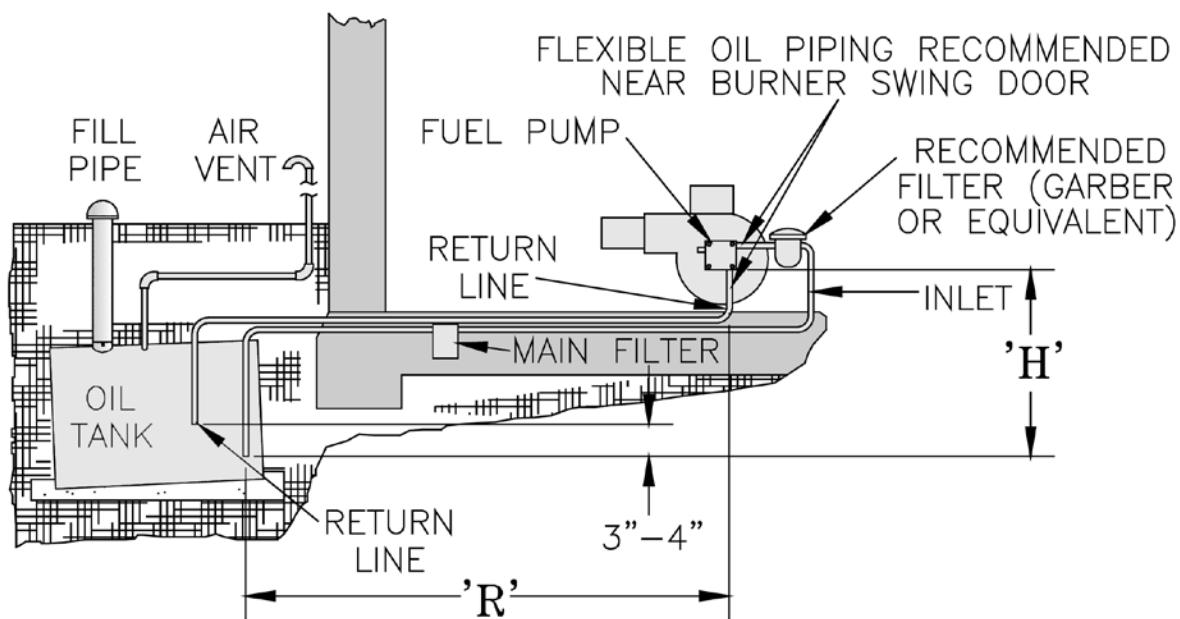

Figure 15: Two-Pipe Installation
1. For two-piped systems, where more lift is required, the two-stage fuel unit is recommended. Table 4 (single-stage) and Table 5 (two-stage) show allowable lift and lengths of 3/8 inch and 1/2 inch OD tubing for both suction and return lines. Refer to Figure 15.